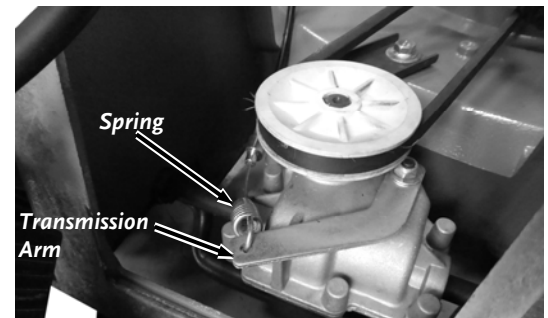

Figure 36
10. Remove the Spring of the Drive Cable from the Transmission Arm (**Figure 36**). Remove the Cable.